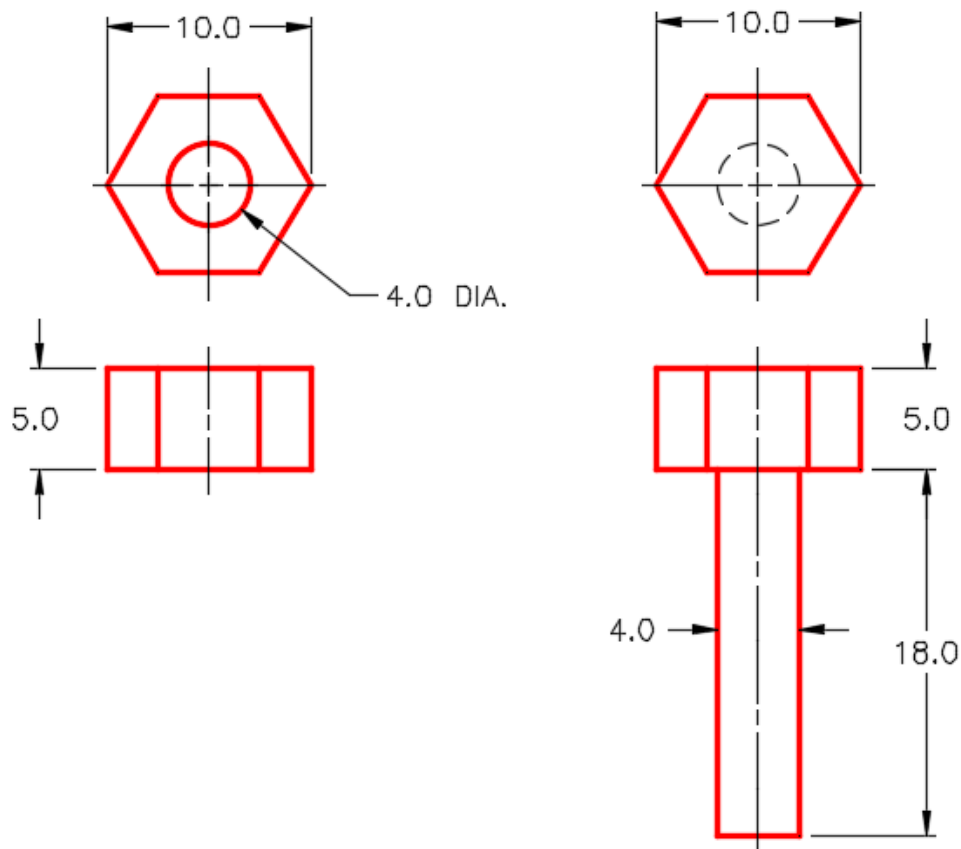

Figure Step 4A
Step 4 Using the figure as a reference, anywhere in model space, draw a wireframe model of one nut and one bolt. (Figure Step 4A and 4B)